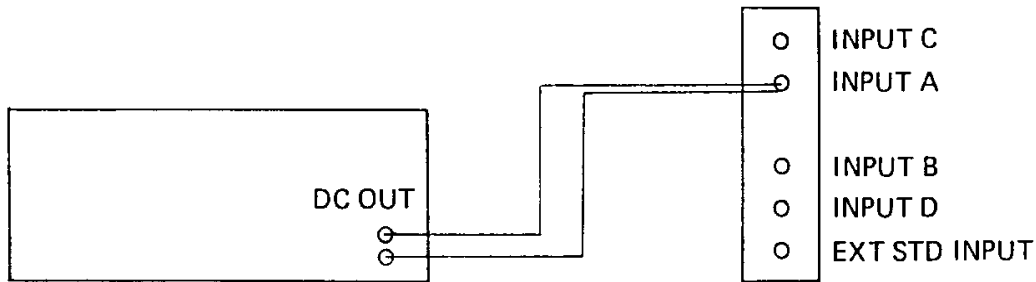

Figure 4-10, Input A Trigger Level Test Configuration
- 4.1.13.2 Connect the counter to the DC standard as shown in **Figure 4-10** and set the DC Standard output voltage to 5.000 V.